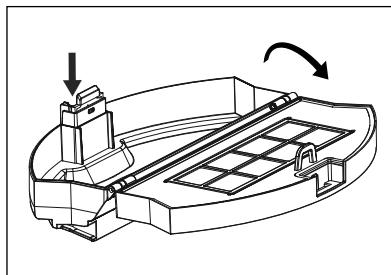

Fig. 8
- Press the release button ⑮ of the dust container ⑯, and fold it open (see Fig. 8).